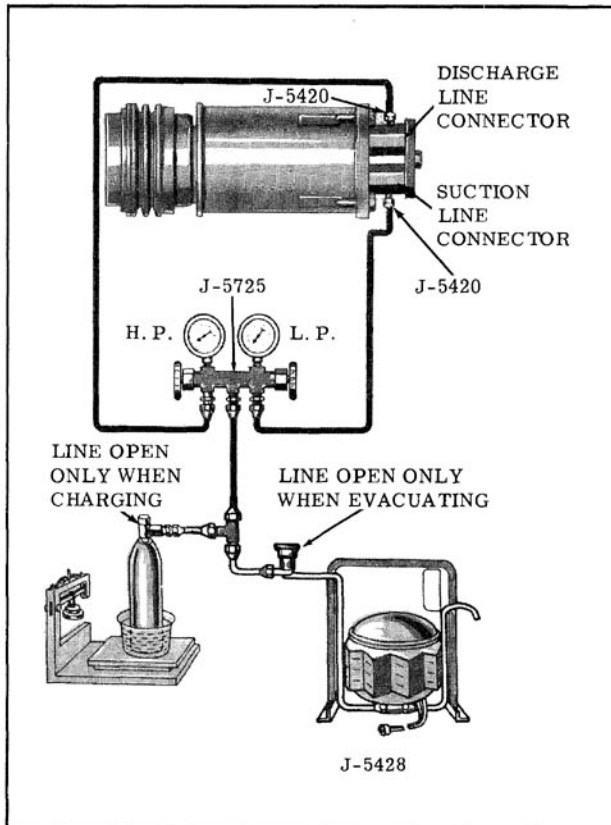

Fig. 14-125 Adding Refrigerant Partial Charge
3. Install gauge set as shown in Fig. 14-125.